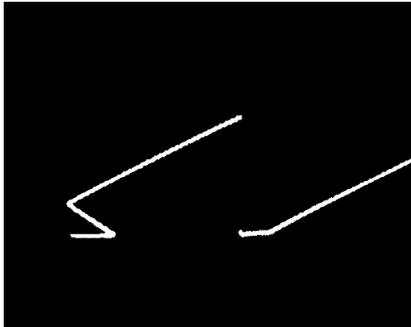
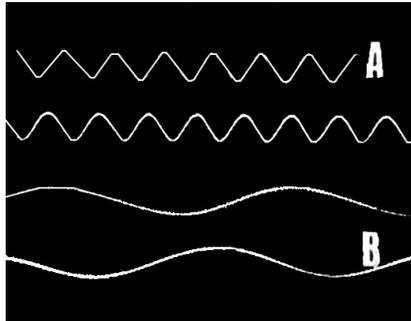

Fig.7. Distortion of displayed waveform due to crosstalk within 'scope circuitry itself.
Fig.8. (A) This appears to be a uniformly modulated RF carrier. (B) Reveals phase shift between positive and negative going halves of envelope.
In Fig. 7 a ramp voltage waveform is shown but the first cycle is distorted, in this case by crosstalk in the 'scope, so it pays to investigate not only the equipment being tested but also the 'scope itself when things do not appear as they should. On this point, also examine the waveform (A) in Fig. 8: it appears to be a uniformly modulated R.F. carrier but expansion of the timebase (or speed-up) as in (B) reveals that the positive going half of the envelope is out of phase with the negative going half. This could be due to phase shift in the circuitry being tested or in the 'scope amplifier.